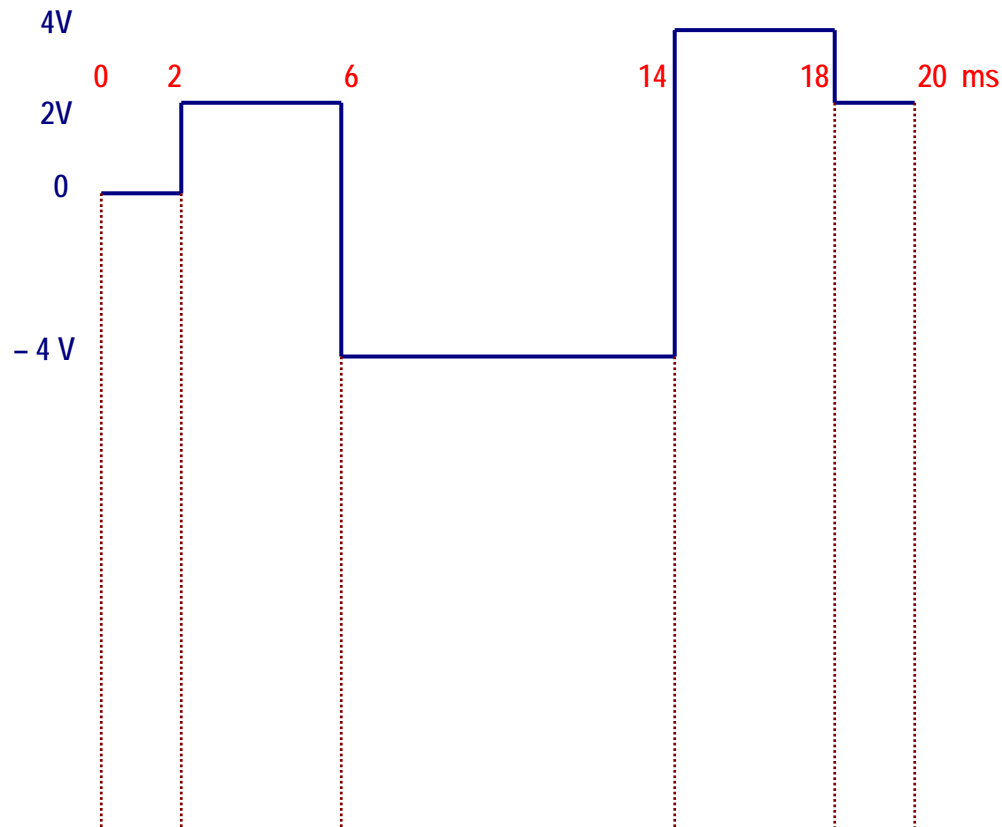

Figure 7-14. Input waveform for question 5.
5. The input waveform shown in Figure 7-14 is applied to a non-inverting integrator with: $RC = 5 \text{ ms}$ and a supply of $\pm 18 \text{ V}$.
- Draw the expected output waveform below the input signal in Figure 7-14 indicating its amplitude.